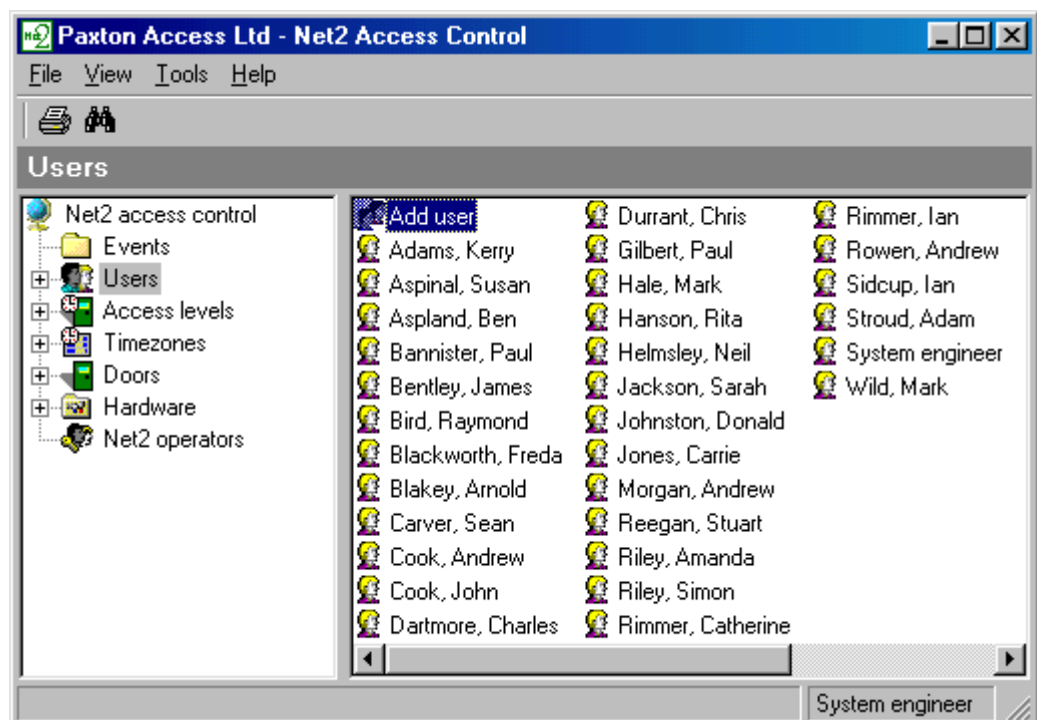

Figure 4.13
1. Double click on **Add User**, see figure 4.13.